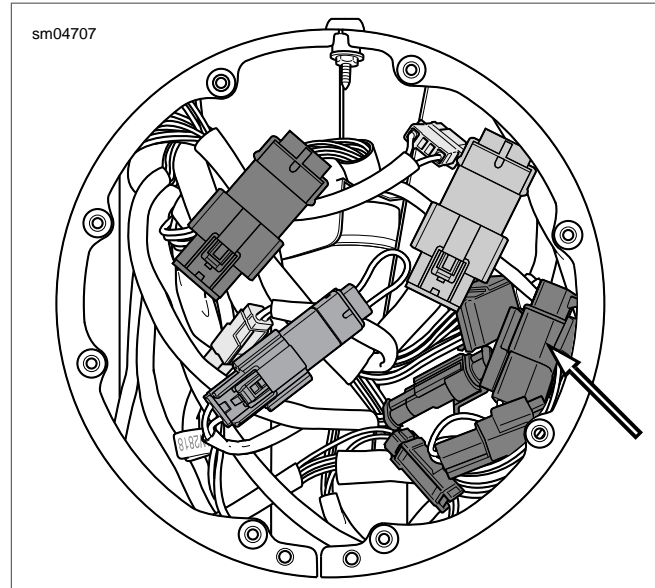

Figure 2-16. Disconnect Tachometer Connector
- a. Disconnect tachometer harness connector [20], 6-place Deutsch. See Figure 2-16.
- c. Connect tachometer harness connector [20], 6-place Deutsch. See Figure 2-16.